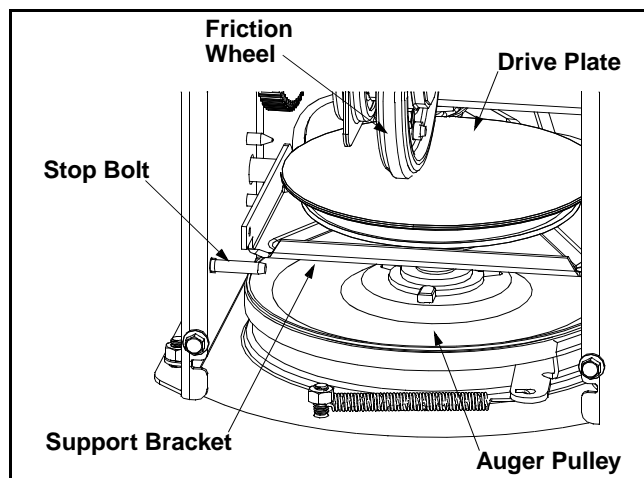

Figure 15
- Back out the stop bolt until the support bracket rests on the auger pulley. See Figure 15.